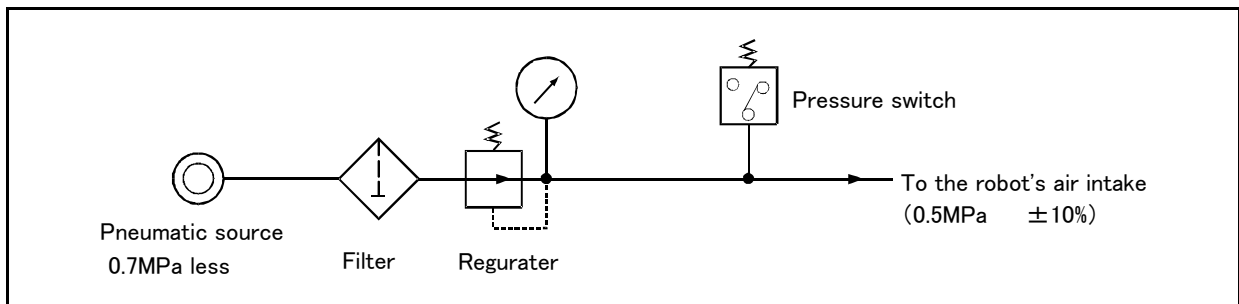

Fig.2-11 : Air supply circuit example for the hand
Fig. 2-11 shows an example of pneumatic supply circuitry for the hand.
- (1) Place diodes parallel to the solenoid coil.
- (2) When the factory pneumatic pressure drops, as a result of the hand clamp strength weakening, there can be damage to the work. To prevent it, install a pressure switch to the source of the air as shown in Fig. 2-11 and use the circuit described so that the robot stops when pressure drops. Use a hand with a spring-pressure clamp, or a mechanical lock-type hand, that can be used in cases where the pressure switch becomes damaged.
- (3) The optional hand and solenoid valve are of an oilless type. If they are used, don't use any lubricator.